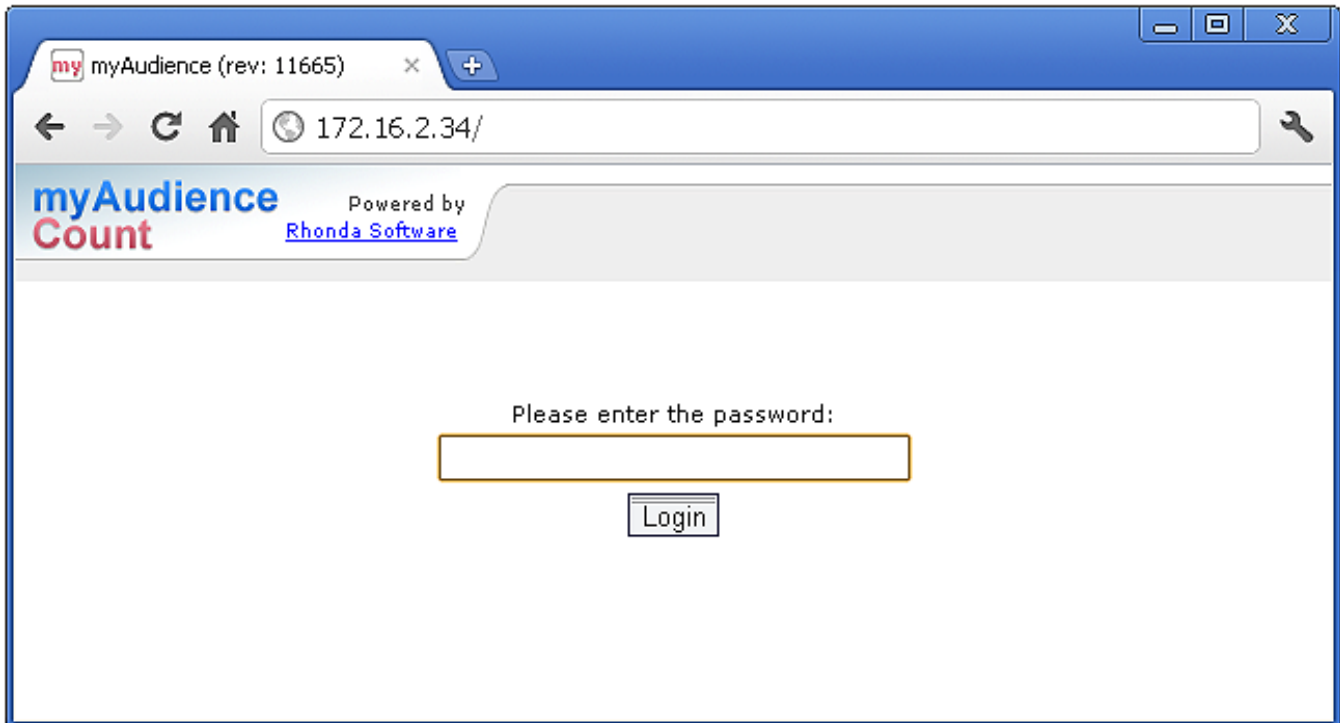

Figure 16: logon screen.
2. On logon screen (Figure 16), enter the default web UI password – “admin”. For further work we recommend you to change the password, as described in the section 6.5, before starting to use Measuring Device in field.